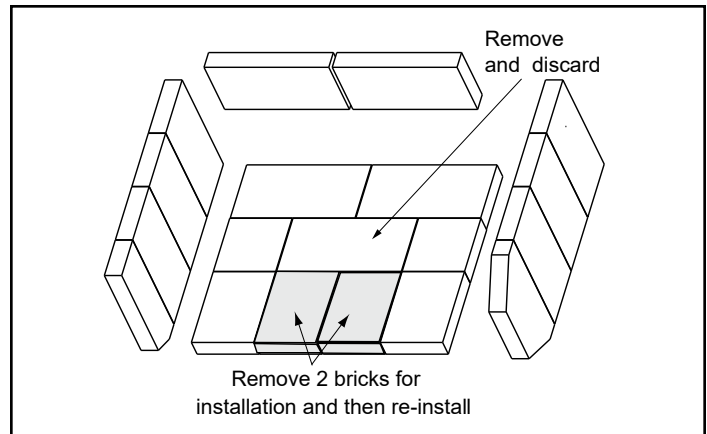

Figure 21.1
2. Remove the 2 bricks in the front most part of the firebox (**Figure 21.1**).
2. Remove the 2 bricks in the front most part of the firebox (**Figure 21.1 on page 21**).